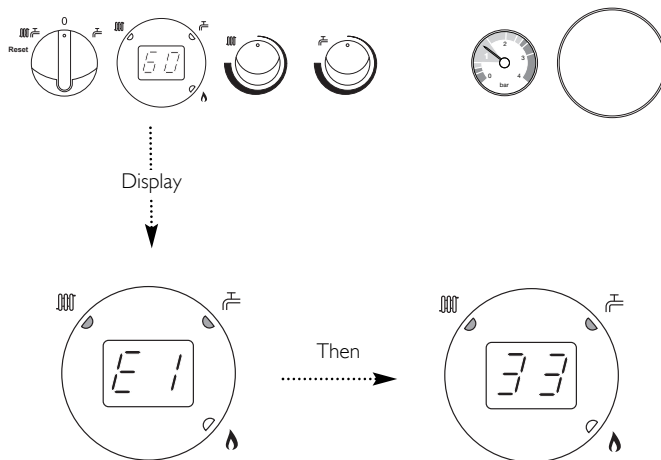

Fig. 5
1. If a fault occurs on the boiler an error code may be shown on the fascia display (Fig. 5).